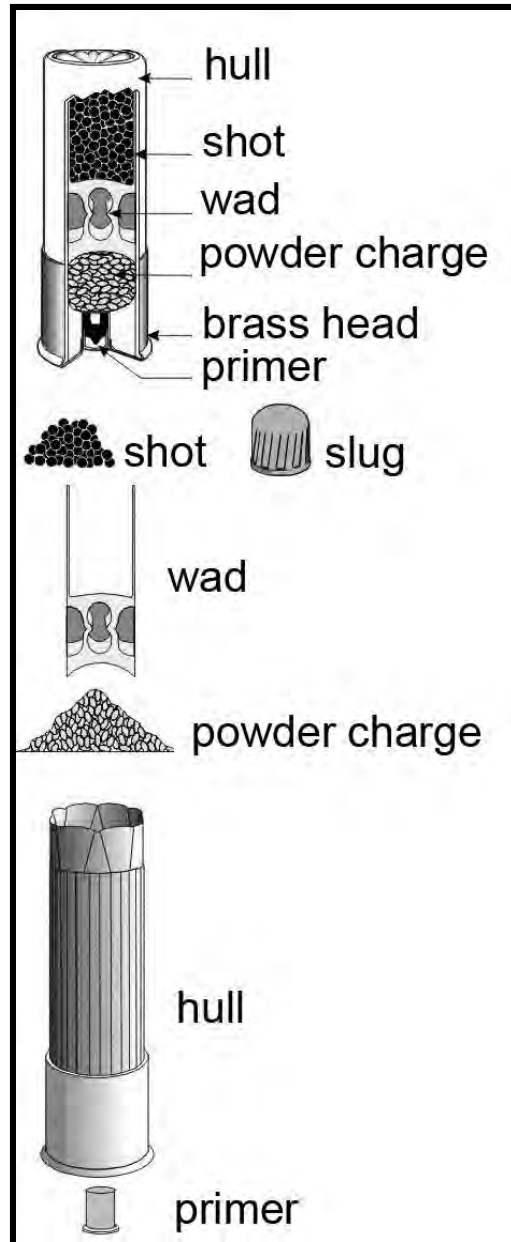

Figure 31. Shotgun Shell Components
- a. Shotgun ammunition is centre-fire. The casing or hull has a thick, solid base. The primer is located in a separate cup in the centre bottom of the casing (Figure 31).